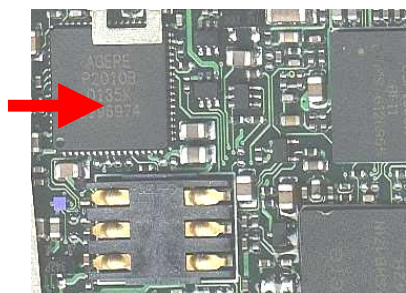

Fig. 3.1
- Check the output of Regulator U101, normally the voltage Pin13=1.8V, Pin15=2.85V (Fig. 3.1).